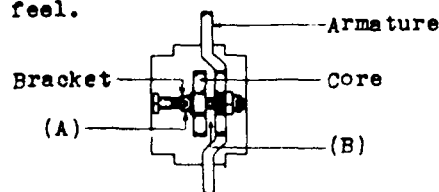

Fig. 5
2.10 Adjustable Stop Pin Tightness - Fig. 5 (A) -
2.11 Armature Travel - Fig. 5 (B) -